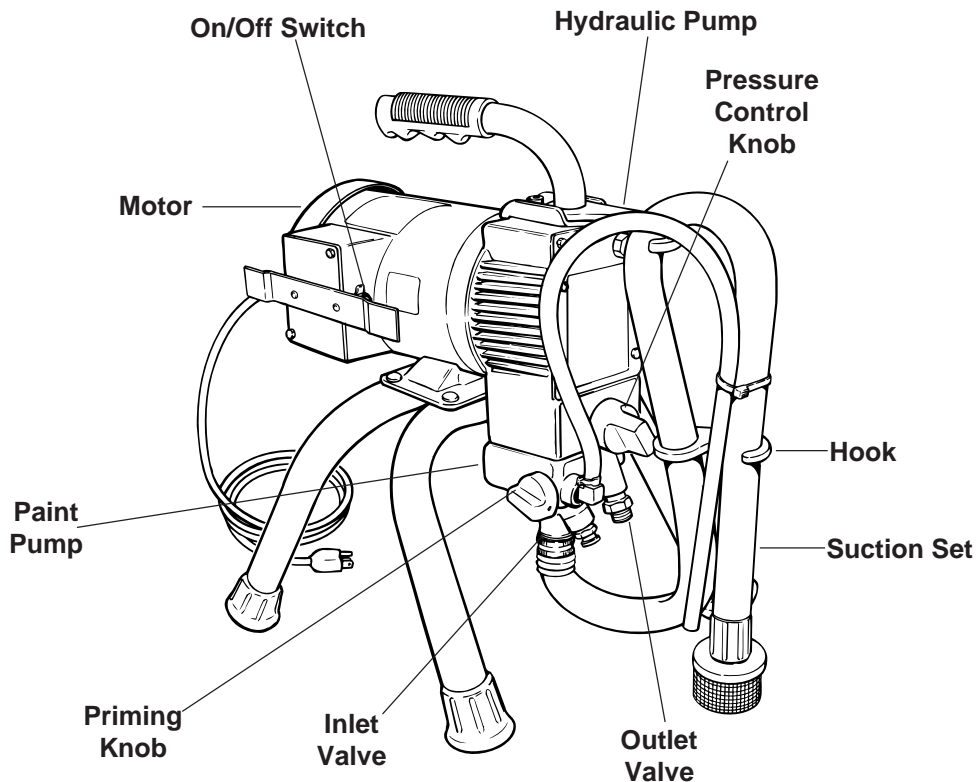

Figure 1.-Sprayer Component Locations
See Figure 1 for component locations.
Power for the sprayer is supplied by a 3/4 horsepower, TEFC electric motor (see Figure 1). It is located at the rear of the sprayer and is connected to the hydraulic pump. The motor is furnished with a 3-wire electric cord. The third wire (ground) should never be cut off. Any extension cords used
The ON-OFF switch is located on the side of the electric motor (see Figure 1).
For the hydraulic pump location, see Figure 1. It operates as follows: The electric motor is connected to the eccentric bearing, which is inside the hydraulic pump. The piston rests on the bearing. The movement of the bearing causes the piston to move up and down. When the trigger on the gun is pulled back, this action moves the pump diaphragm. Diaphragm movement forces the paint through the outlet valve and out the paint hose and spray gun. The paint goes through the spray gun at high pressure, causing it to break-up (atomize) into fine particles. This gives a smooth and even paint coating. Pressure and delivery rate are regulated by the pressure control knob and spray tip size.
The pressure control knob controls the pressure control valve. It is manually operated. It is located on the front of the hydraulic pump near the bottom of the sprayer (see Figure 1). When the knob is turned **clockwise**, more hydraulic pressure is directed toward the diaphragm. When the knob is turned **counterclockwise**, less hydraulic pressure is directed toward the diaphragm. The pressure control knob regulates the pressure on the diaphragm from 0 PSI when turned fully **counterclockwise** to 3000 PSI when turned fully clockwise.
The paint pump is located below the hydraulic pump (see Figure 1). The two pumps are bolted together by four socket head capscrews. The diaphragm separates the pumps. The paint pump operates as follows: The piston in the hydraulic pump forces hydraulic oil toward and away from the diaphragm. This action moves the diaphragm up and down. Diaphragm movement forces paint through the spray gun at high pressure.
The inlet valve is located on bottom of the paint pump at the front of the sprayer (see Figure 1). The suction nut end of the suction tube screws onto this valve. The valve operates automatically. It controls the flow of paint from the paint container into the paint pump. It does this by opening up when the piston and diaphragm are on the downstroke, allowing a “gulp” of paint to enter the paint pump. The inlet valve then closes when the piston and diaphragm are on the upstroke. This closing prevents paint from going back through the inlet valve into the paint container (inlet valve acts as a check valve). Instead, the paint is directed out the spray hose and spray gun by the outlet valve.
The outlet valve is also located on bottom of the paint pump at the front of the sprayer (see Figure 1). It operates automatically, serving as a check valve. When the priming valve is on  (spray) position, the outlet valve directs the flow of paint out into the spray hose and into the spray gun. When the diaphragm and piston act to “gulp” more paint, the outlet valve closes. The closed valve prevents (checks) paint in the spray hose and spray gun from returning to the paint pump.
The priming knob controls the priming valve. It is located on the right front of the paint pump at the front of the sprayer (see Figure 1). It can be manually turned to the ☺ or ⌈≡ position. When on ☺ (prime) it serves to rid the sprayer of air by directing the initial air volume of the inlet valve back into the paint container. It will continue to do this until paint comes through and it is manually switched to the ⌈≡ (spray) position. It then directs the paint out the outlet fitting to the spray hose and on to the spray gun.
The complete suction set consists of (1) the suction tube with a suction filter on one end and (2) the return tube (see Figure 1). Both suction and return tube are chemical and oil resistant. One end of the suction tube and one end of the return tube screw onto the paint pump (see Figure 1). These two fittings need to be tight enough to keep air from being drawn in. The other two ends go in the paint container. When the priming knob is turned to ☺ (prime), paint is drawn up the suction tube into the paint pump. The paint pump then routes the paint through the return tube back to the paint container. This primes the painting system. When the priming knob is turned to ⌈≡ (spray), flow is shut off through the return tube and the sprayer can spray.
The high pressure outlet fitting is located on the front side of the paint pump (see Figure 1). The paint hose is connected to it. The outlet fitting connections must be very tight. Otherwise, fluid will leak out the connections when pressure builds up in the system.
The high pressure paint hose (see Figure 1) has permanently swaged fittings. It is grounded with a static conductor. This conductor serves to "drain off" any static charge, preventing shock. The conductor is sandwiched between two insulating sheaths which resist breaking and abrasion.